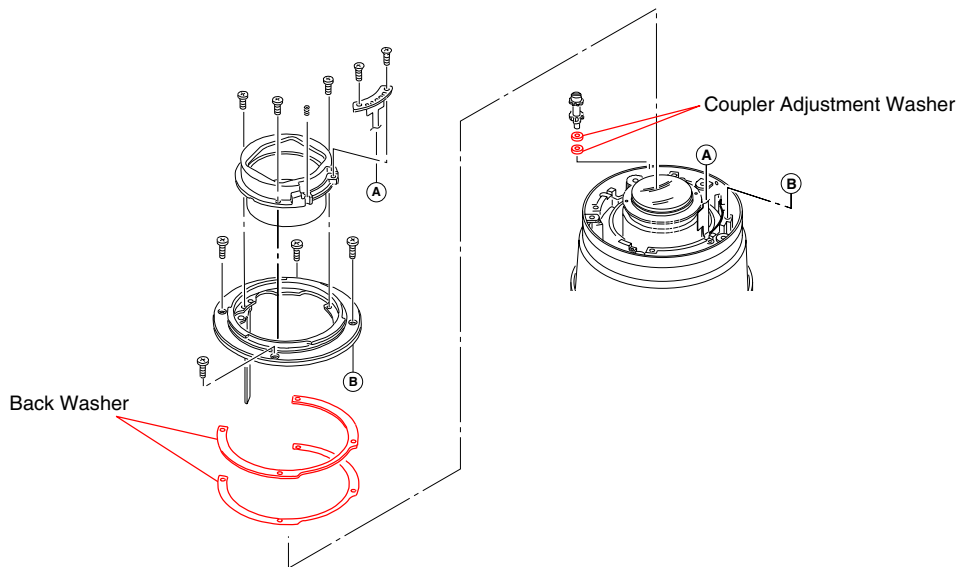

Fig.4-4-5
- 4) Adjust the back washer thickness according to the result of step 3). (Refer to Table 4-4-2 and Fig.4-4-5.)
(Refer to Table 4-4-2 and Fig.4-4-5.)